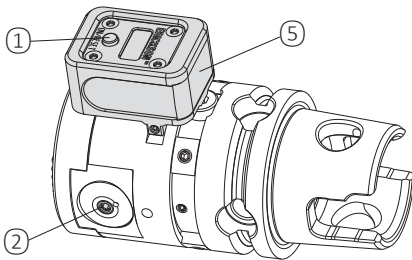
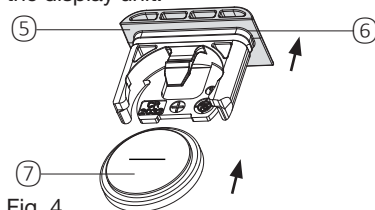

Fig. 2
Fig. 4
**Battery change (Fig. 2, 4)**
The integrated battery has a service life of approx. 5000 setting cycles. We recommend keeping spare batteries close to hand (Battery type VARTA Cr 2032). When the “Low battery” symbol appears on the display, the batteries will last for about another 50 setting cycles. If, when switching on, the display shows fault code E-99 and “Low battery” flashes on and off, the battery is spent and it has to be replaced. To replace, pull the battery compartment ⑤ (Fig. 2, 4) out of the display unit, remove old battery and dispose of properly. Insert new battery in correct way Fig. 4. Then slide battery compartment all the way back into the display unit.